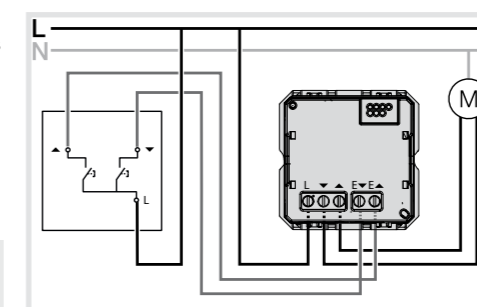

Figure 4: Connecting diagram blind switch with blind switch extension unit
- Connect individual control with push-button for blind extension unit according to connecting diagram (figure 4)